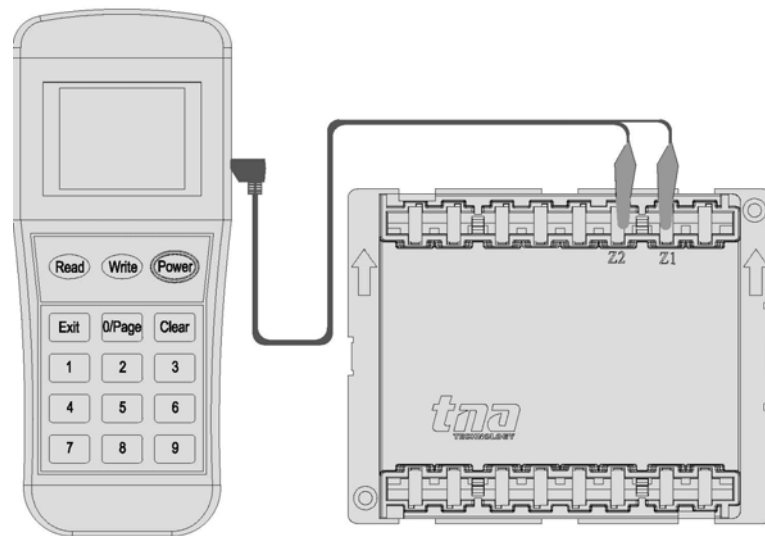

Figure 6: Programmer Connection Detail
1. Connect the programming cable to Z1 and Z2 terminals (Figure 6). Press **"Power"** to switch on the unit.
2. Connect the programming cable to Z1 and Z2 terminals (Figure 6). Press **"Power"** to switch-on the unit.
2. To set to check mode. Connect the programming cable to Z1 and Z2 terminals (Figure 6). Press **"Power"** to switch-on the unit.
1. Connect the programming cable to Z1 and Z2 terminals (Figure 6). Press **"Power"** to switch-on the unit.